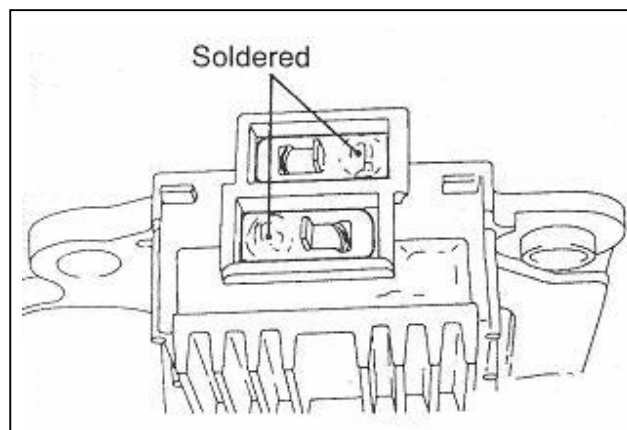

Fig. 9-48
- ② Unsolder pigtail and remove old brush and spring. .
- ③ When installing a new brush, push the brush in the brush holder as shown in Fig. 9-48, and solder the lead wire.